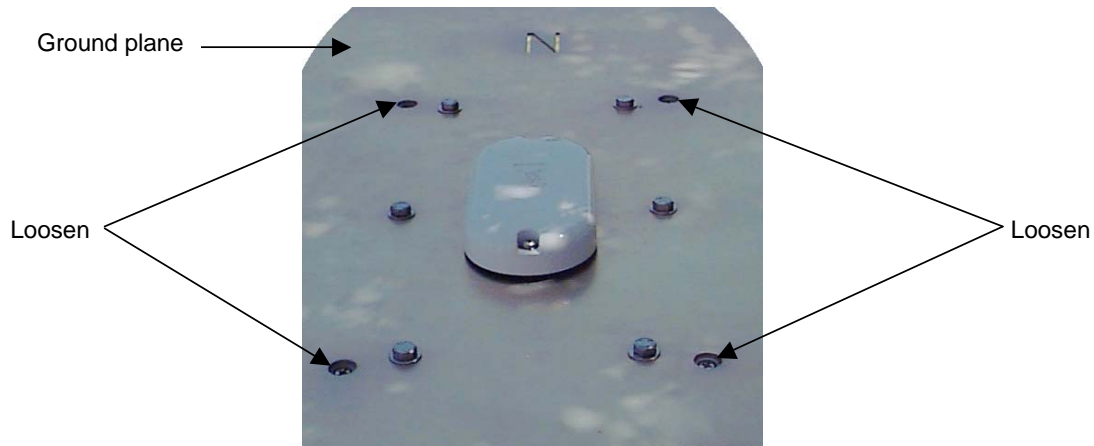

Figure 3. Opening the sensor enclosure
- 9** Open the sensor enclosure by loosening the four countersunk bolts shown in **Figure 3**. **Do not remove** the six bolts holding the ground plane to the enclosure lid.